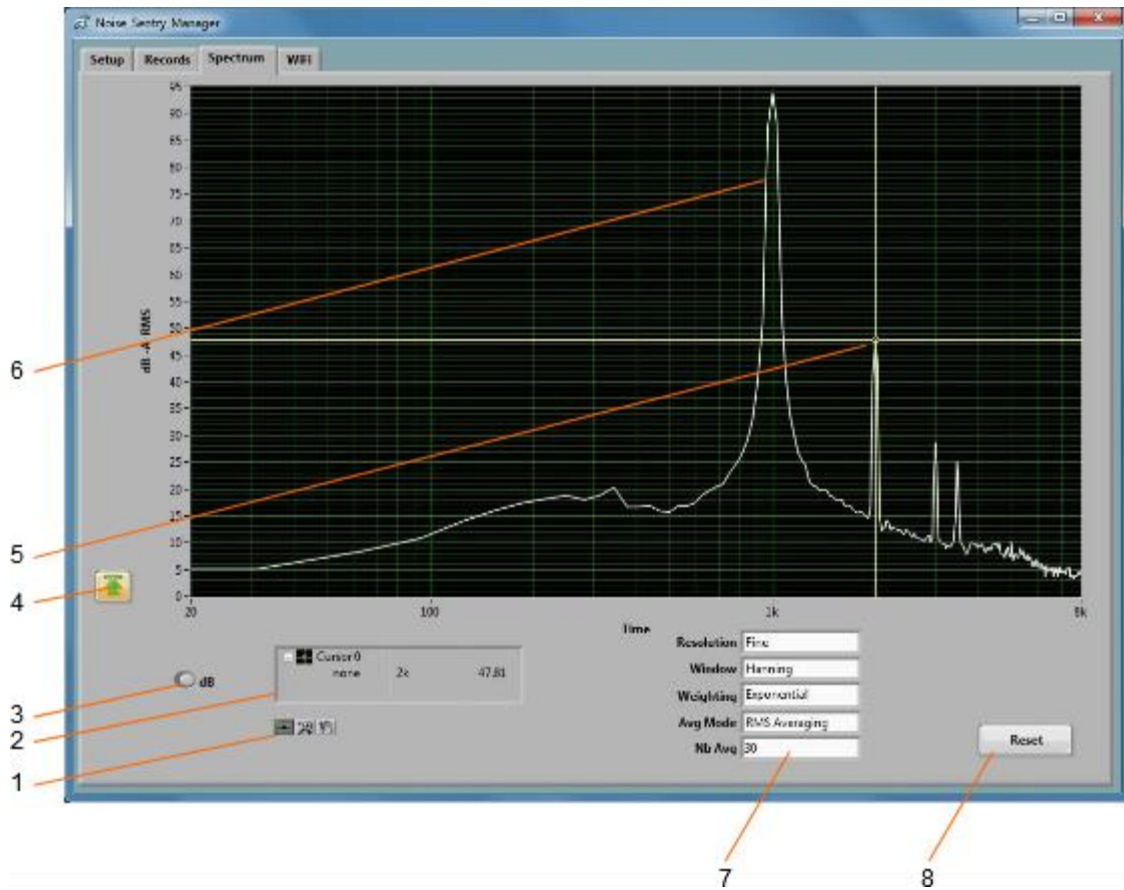

Figure 4 **Spectrum Tab**
- **The Spectrum Tab:** Is used to display a real-time power spectrum from the `NSRTW_mk3` (see Figure 4).